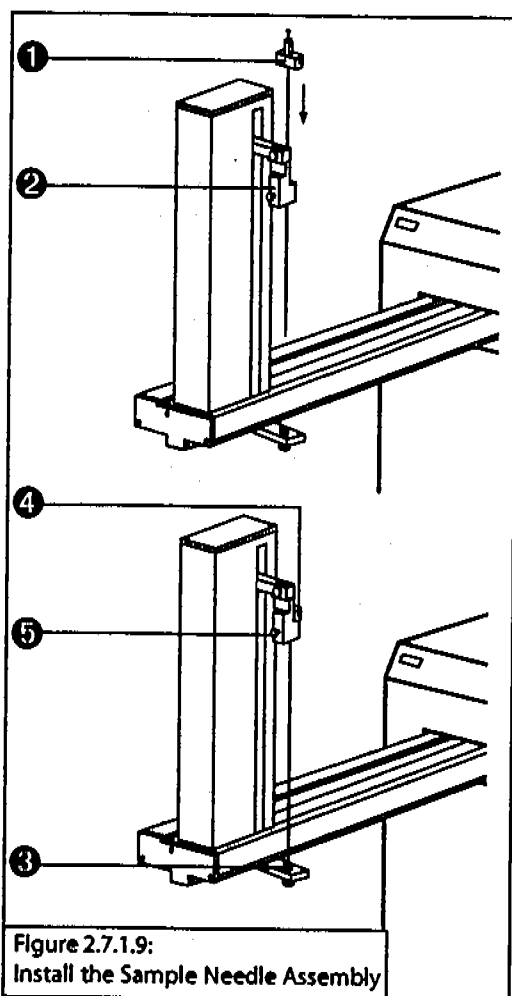

Figure 2.7.1.9:
1. Slide the needle assembly (❶), Figure 2.7.1.9) down through the needle holder (❷) and needle guide nut (❸) making sure that the side pressure port (❹) faces out and that the sample needle is centered and just barely within the the needle guide.